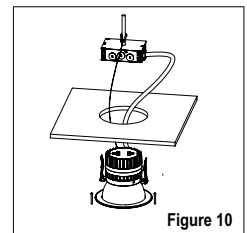

Figure 10
6. Bend the spring clips upward so they are in an upright and insert downlight into hole in the ceiling / housing. (See Fig. 10)